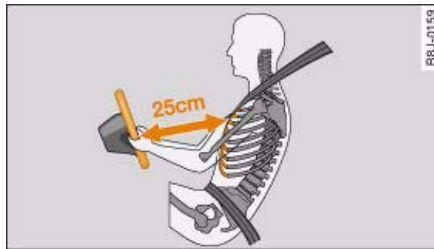

Fig. 162 Minimum distance between driver and steering wheel
- Adjust the steering wheel so there is a distance of at least 25 cm between the steering wheel and your breastbone ⇒ fig. 162.
- Adjust the driver's seat so there is a distance of at least 25 cm between your breastbone and the centre of the steering wheel ⇒ fig. 162.